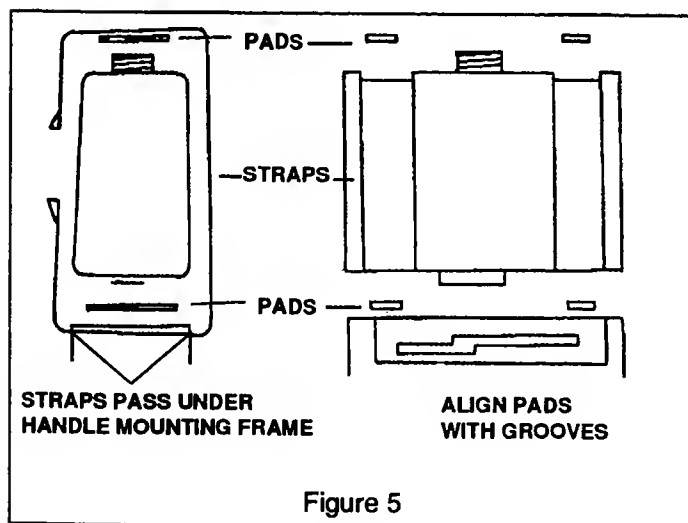

Figure 5
8. Attach fuel tank (See figure 5) as follows:
- Position the tank so the SCAG logo is forward. Place the straps around the tank going under the handle mounting frame, secure the strap together in front using (2) two 1/4-20 x 2" slotted machine screws and hex nuts. Tighten screws until the tank will not slide around. Over tightening will damage the tank or straps.